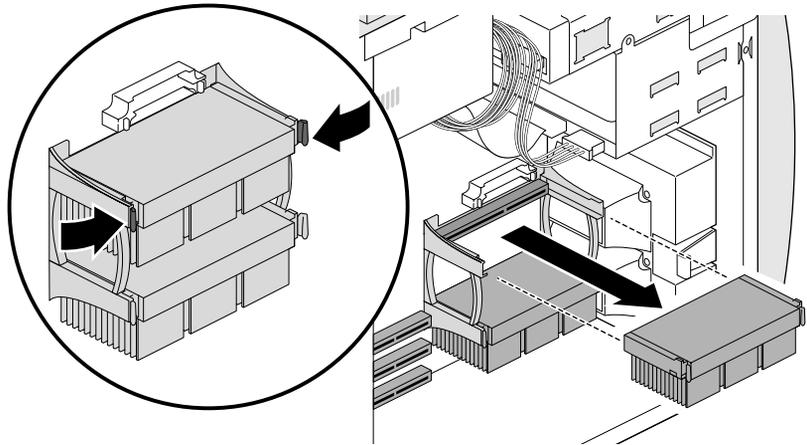

Figure 6-9 Removing a Processor
6. Push the latches on the sides of the processor inward and pull the processor out of the system, as shown in Figure 6-9.